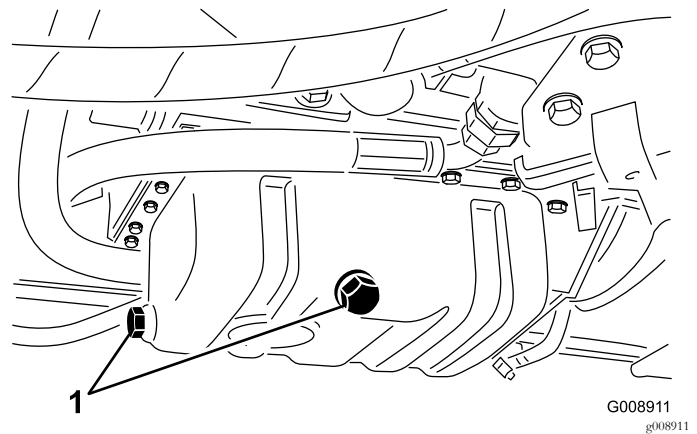

Figure 64
1. Remove either drain plug (Figure 64) and let the oil flow into a drain pan; when the oil stops flowing, install the drain plug.